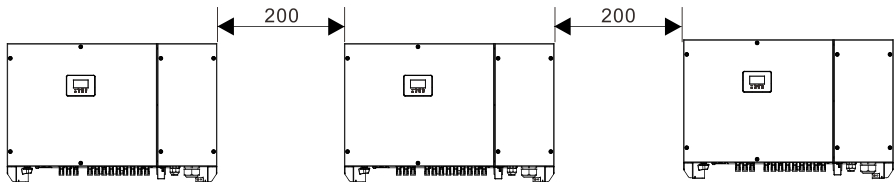
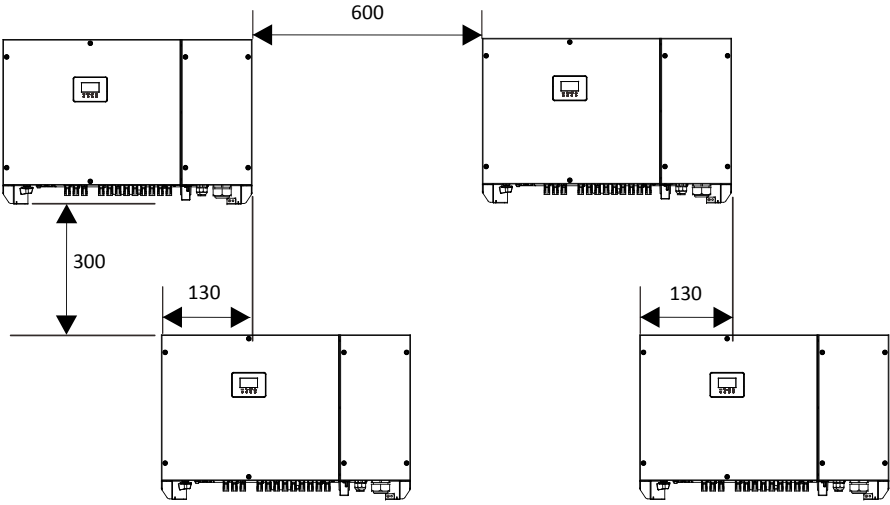

Figure 4.4 Installation along the same line (unit: mm)
Figure 4.5 Installation in stacked arrangement (unit: mm)
- ③ When installing multiple inverters, install them along the same line (as shown in Figure 4.4) if sufficient space is available, or install them in stacked arrangement (as shown in Figure 4.5) if no sufficient space is available. These arrangements ensure sufficient space for installation and heat dissipation.